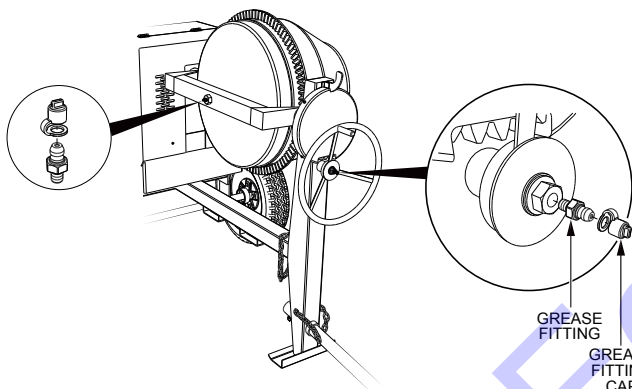

Figure 33. Grease Fittings (Mixer)
1. There are 3 grease (Figure 33) fittings that will require lubrication. Lubricate these fittings **once a week**. Use lithium base grease, grade NO.1.